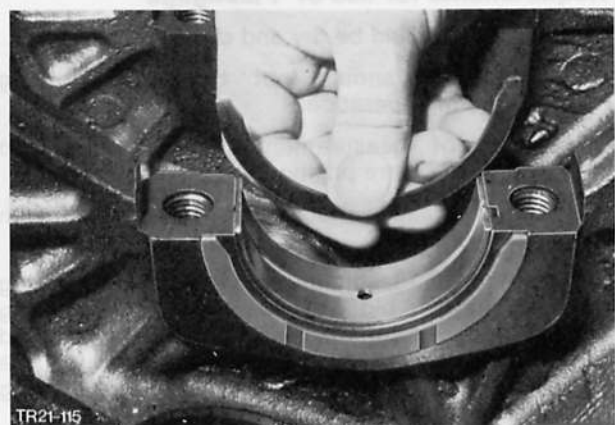

Fig. 66. Fit thrust washers
- 40. Insert main bearing shells dry into engine block, on centre bearing locate both thrust washers in cylinder block recesses in such a manner that oilways are visible (Fig. 66). Lubricate bearing shells and carefully insert crankshaft.